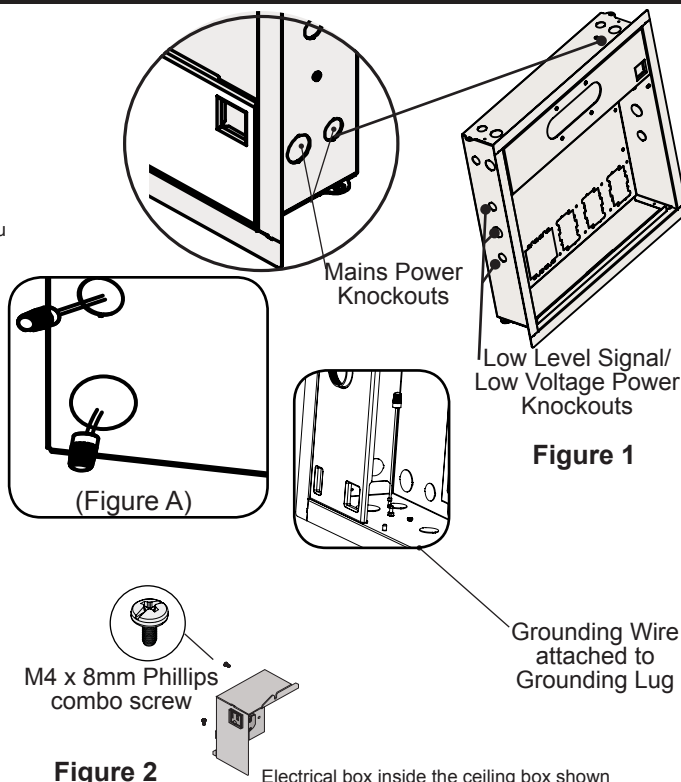

Figure 2
Remove two (2) M4 x 8mm Phillips combo screws to detach the electrical box from the ceiling box (Figure 2).
- 2) Remove the knockout covers from the top of the GB-AVSTOR5 (Figure 2).